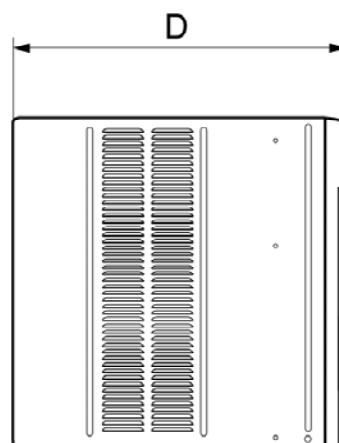

Figure 1
1. Loosely attach the Support Bracket to the bottom of Bracket using Bolts, Washer, and Nuts. Attach the Leveling Bolt and Nut. (Fig. 1)
2. Remove the screws which fasten the front grille.(See Figure 1)